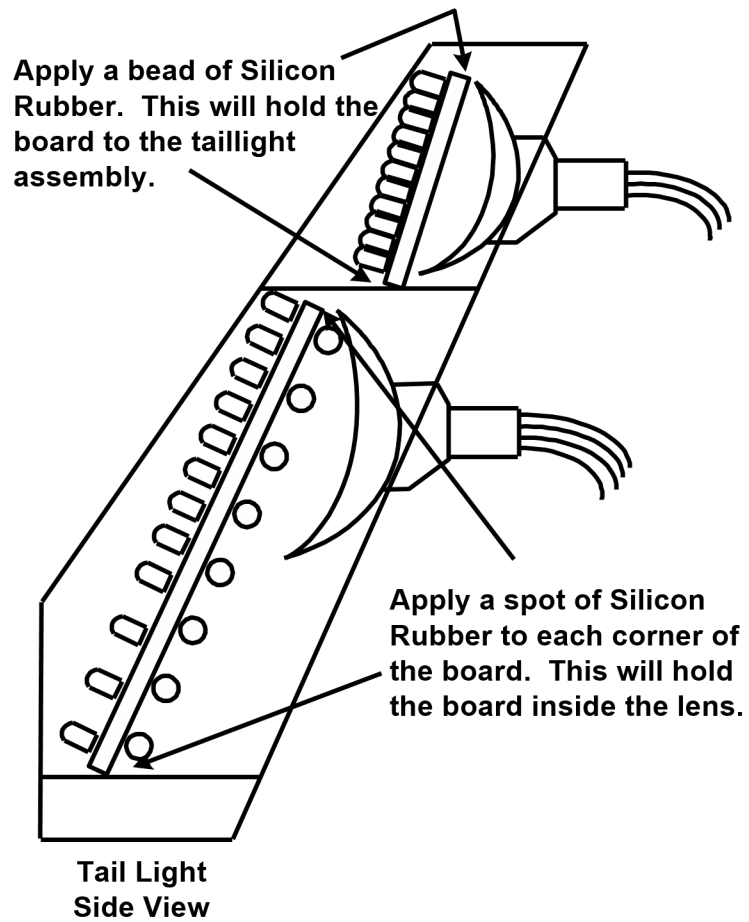

Fig. 2
7. Take the bottom circuit board and insert it into the tail light lens. Push the bottom of the board against the *front* of the lens. Refer to the installation drawing (Fig. 2). Then push the top of the board into the lens. Apply a bead of Silicon rubber at the base of the board. Then apply a spot of Silicon at top corners of the board. This step is not necessary, but is recommended.